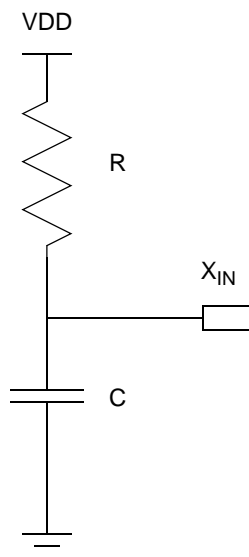

Figure 26. Connecting the On-Chip Oscillator to an External RC Network
Figure 26 illustrates a recommended configuration for connection with an external resistor-capacitor (RC) network.